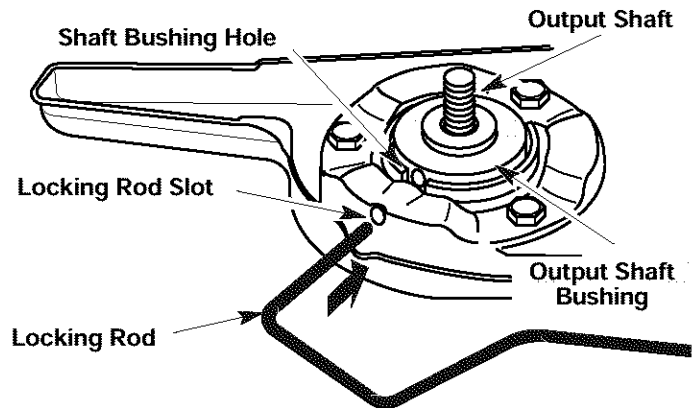
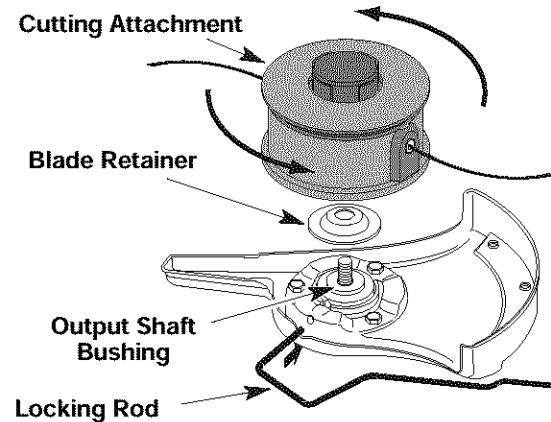

Fig. 8
Fig. 15
1. Align the shaft bushing hole with the locking rod slot and insert the locking rod into the shaft bushing hole (Fig. 8).
- Align the shaft bushing hole with the locking rod slot and insert the locking rod into the bushing hole (Fig. 8, Pg. 9).
5. Align the shaft bushing hole with the locking rod slot and insert the locking rod into the shaft bushing hole. (Fig. 8, Pg. 9). Place the blade retainer on the output shaft with the flat surface against the output shaft bushing as shown in Fig. 15. Screw the cutting attachment counterclockwise onto the output shaft. Tighten securely.